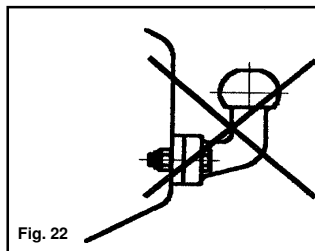

Fig. 22
- 1) In accordance with EC Directive 94/20, couplings of type A 50-1 cannot be used (see Fig. 22), your warranty will be invalid if this type of towball is used.